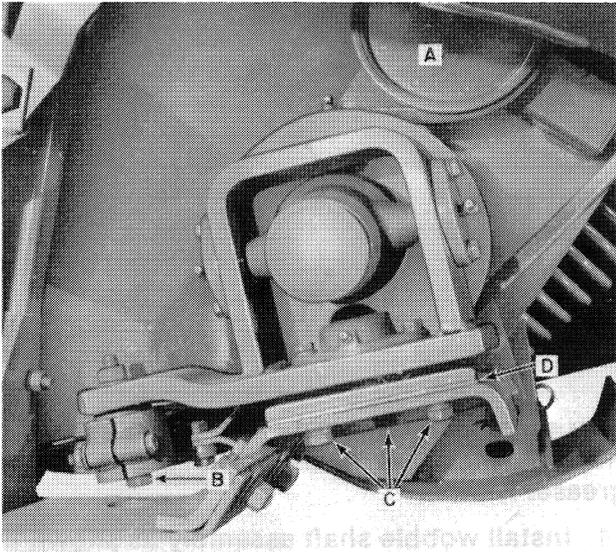

FIGURE 1
1. Loosen the sickle drive belt idler at A, Figure 1.
3. Remove the knife head bolt, B, Figure 1.
4. Remove bolts, C, and spacer, D, Figure 1.
Work sickle belt under steady rest support. Install bolts, C, Figure 1, and tighten these bolts. Be sure spacer, D, is installed.